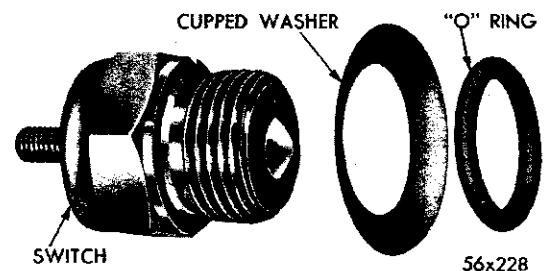

Fig. 19—Neutral Starting Switch (Disassembled)
- (1) With the proper control cable adjustment assured, depress the N (neutral) push button.
- (2) Raise the vehicle and drain approximately two quarts of fluid from the transmission.
- (3) Unscrew the neutral starting switch from the transmission case and inspect to see that the switch operating lever is aligned in the center of the switch opening in the case.
- (4) Place the cupped washer and "O" ring over the threads of the switch (Fig. 19), then screw the switch into the transmission case a few turns.
- (5) Connect one lead of a test lamp to the battery current and the other lead to the switch terminal. Screw the switch into the transmission case until the lamp lights, then tighten switch an additional  $\frac{1}{4}$  to  $\frac{3}{8}$  turn.
- (6) Remove test lamp and connect wire to the switch.